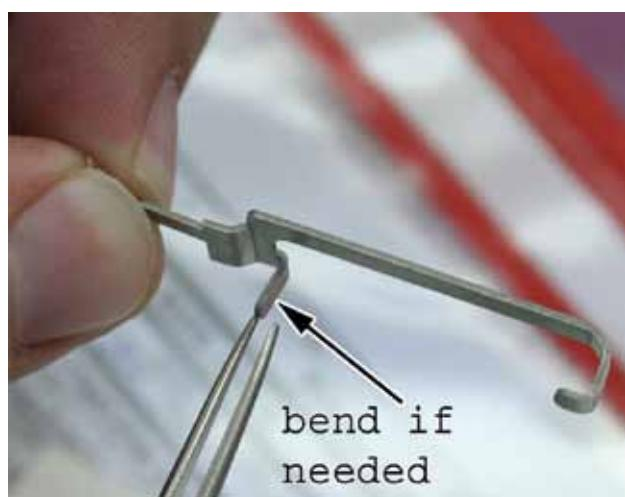

Figure 28. Adjusting the collar sensor contact
- h To correct the distance, if needed, bend the collar sensor contact that touches the button (Figure 28).